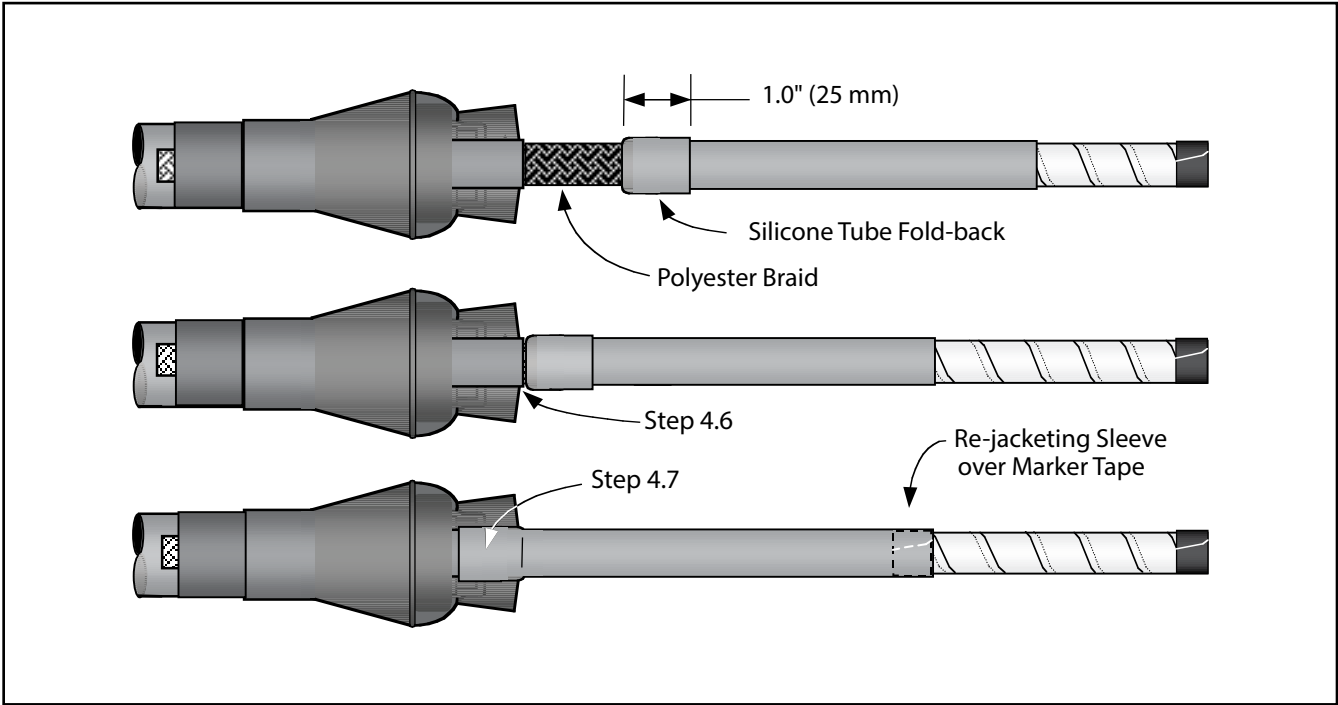

Figure 17
- 4.6 Slide re-jacketing sleeve until inner polyester braid is adjacent to breakout boot finger (*Figure 17*).
- 4.7 Fold outer silicone tubing back on itself for 1.0" (25 mm) (*Figure 17*) and trim off exposed polyester braid.
- 4.8 Slide re-jacketing sleeve assembly down until folded tube contacts edge of breakout boot finger (*Figure 17*).
- 4.9 Pull folded silicone tube section down onto breakout boot finger (*Figure 17*).
Note: Re-jacketing tube end should align with upper edge of installed marker tape (*Figure 17*). Minor tube adjustments can be made as needed.